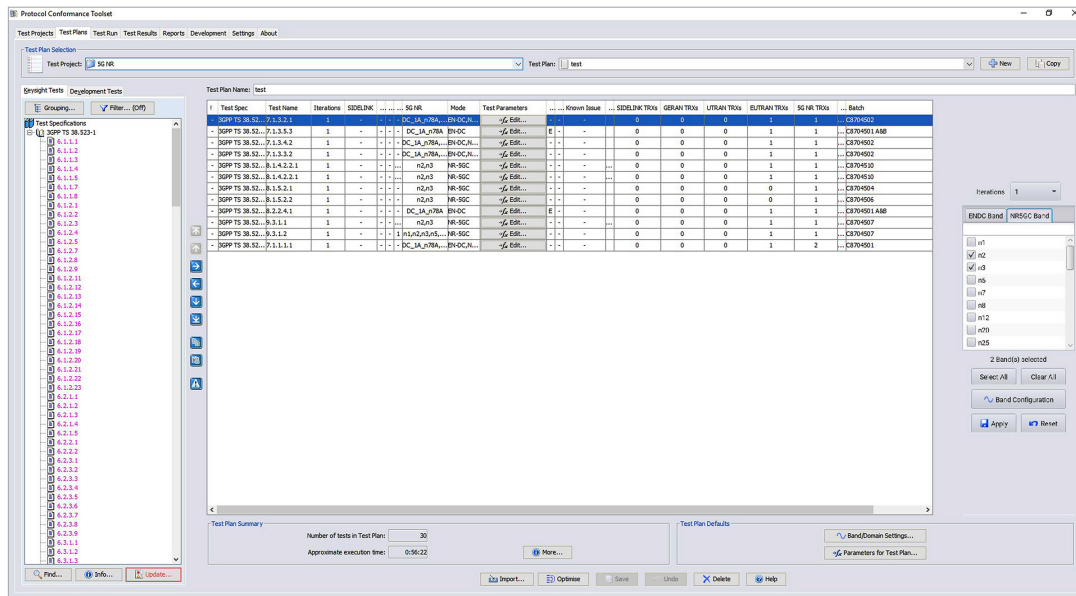

Figure 3. Create and configure a test plan
A Test Plan is a sequence of test cases that can be executed against the selected Test Project. A Test Plan is created by moving test cases from left to right using arrows as can be seen in Figure 3. Each Test Project can be linked to one or more Test Plans. There is no limit to the number of Test Projects that you can create.
- Filtering of test cases by number of cells required, GCF work item/PTCRB RFT, category and Keysight validation status, see Figure 3.